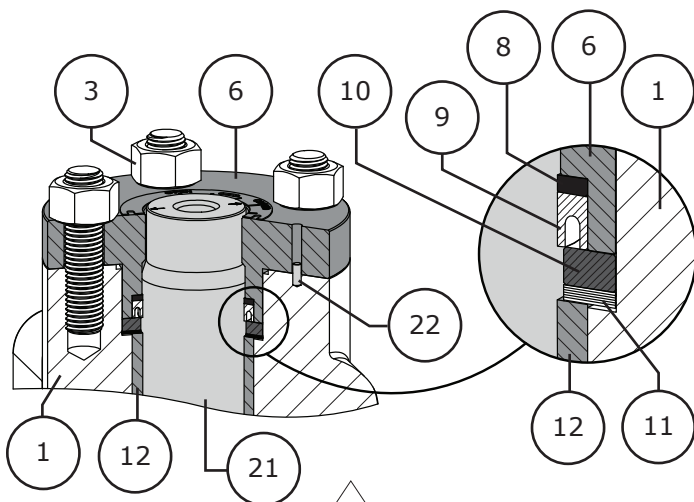

Figure 33 Outboard Shaft Seal Shim Installation
- C** Install the seal carrier assembly and thread on the packing nuts (Key 3) hand tight. **NOTE:** Refer to Figure 33 for locator pin (Key 22) to packing box (Key 49) alignment.